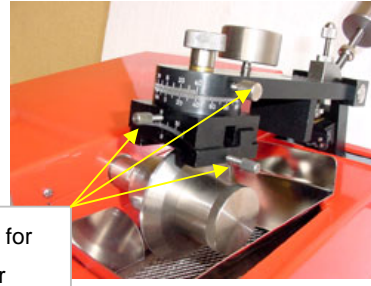

Fig. 3
- (4) Please tighten the screws on sample holder for two angle adjustment and sample holding plate (as Fig. 3), otherwise sample may drop down during cutting
- (5) Before cutting, please choose a comfortable speed. Always adjust speed from lower to higher.